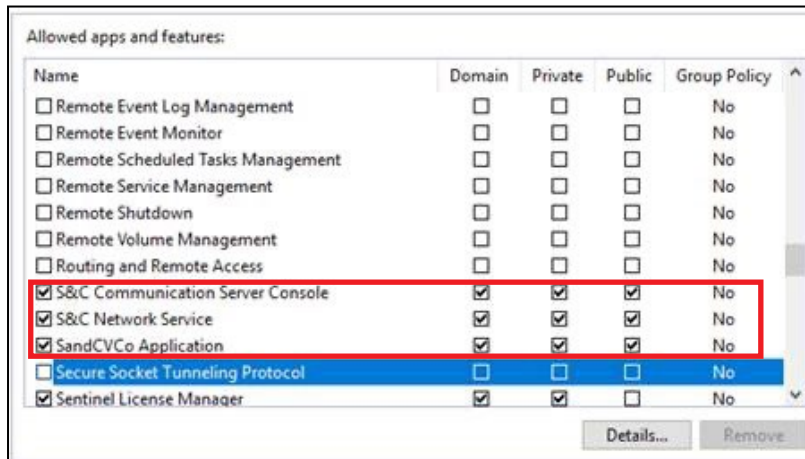
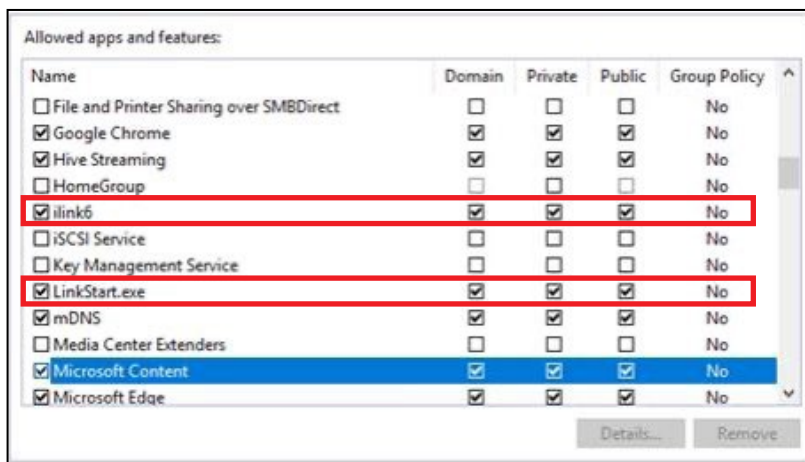

Figure 45. The Allow apps to communicate through Windows Defender Firewall dialog box.
Figure 46. The Allow apps to communicate through Windows Defender Firewall dialog box continued.
STEP 3. Scroll through the “Allowed apps and features:” list and check the applications in the public profile. See Figure 45 on page 114 and Figure 46 on page 114. Table 16 lists the applications that must be allowed and their file locations.